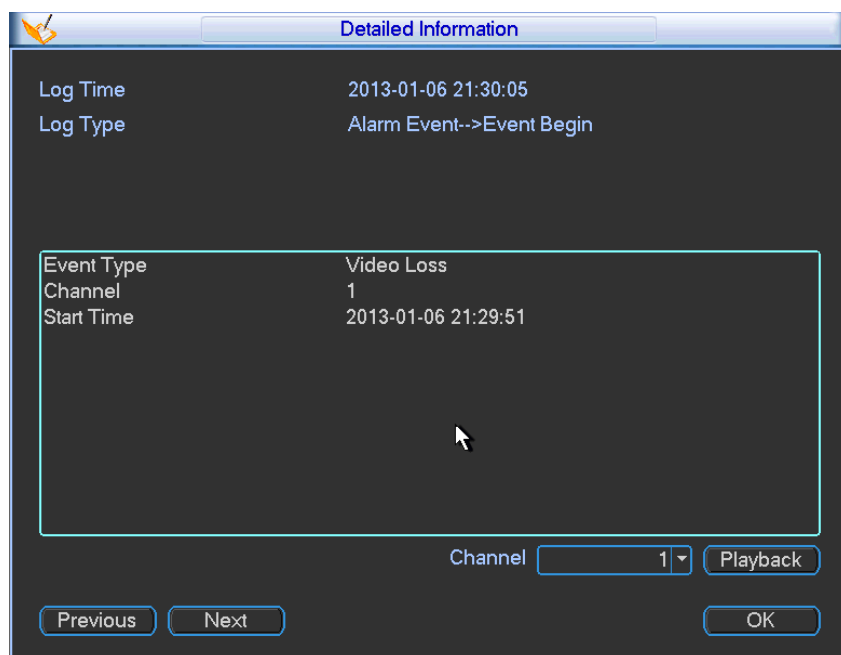

Figure 5-70
- z Details: Click the Details button or double click the log item, you can view the detailed information. See Figure 5-70. Here you can use rolling bar to view information, or you can use Page up/Page down to view other log information. For the alarm event log such as video loss, you can click the Playback button at the bottom right corner to playback.